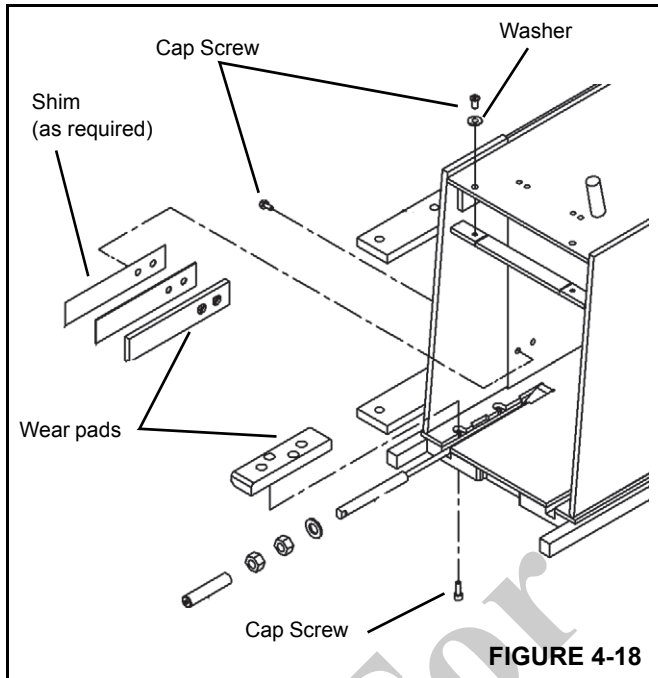

FIGURE 4-18
2. Install the lower wear pads at the front end of the 1st section and secure with cap screws (Figure 4-18).